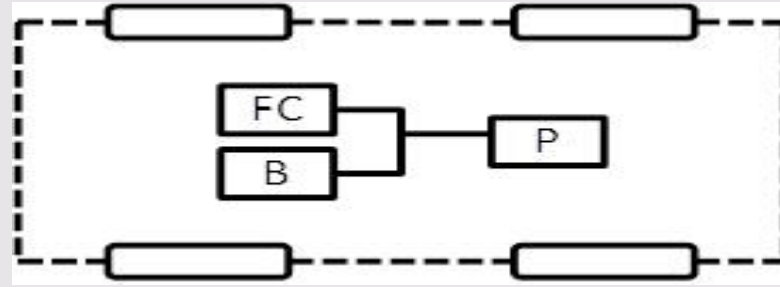

Figure 4c: EV configuration with battery and fuel cell sources
- **Configuration 3:** In this arrangement fuel cell is used, **Figure 4c**. The battery is an energy storage device, whereas the fuel cell is an energy generation device. The operation principle of fuel cells is a reverse process of electrolysis. In reverse and electrolysis, hydrogen and oxygen gases combine to form electricity and water. The hydrogen gas used by the fuel cell can be stored in an on-board tank whereas oxygen gas is extracted from air. Since fuel cell can offer high specific energy but cannot accept regenerative energy, it is preferable to combine it with battery with high specific power and high-energy receptivity